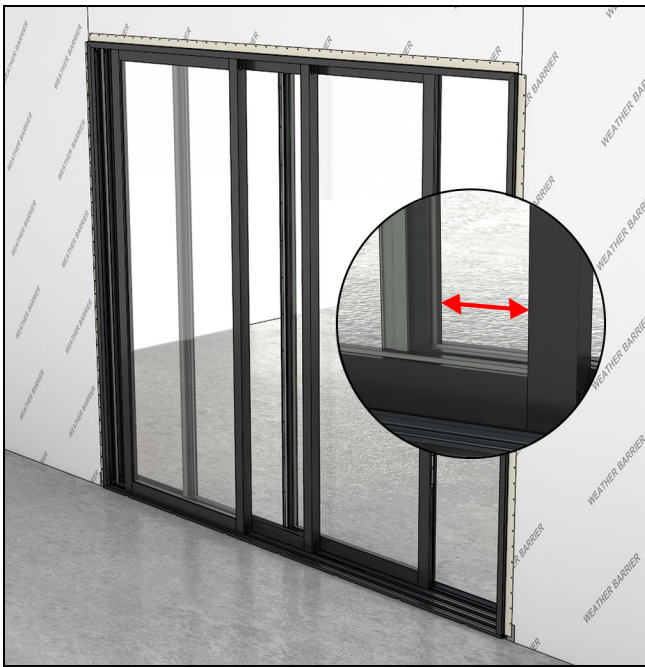

Figure 95
7. With the primary panel open slightly, move the secondary panel until you can see daylight through the glass between the stiles. Check for an even reveal and adjust the rollers on the secondary panel. Repeat as necessary for every secondary panel. See Figure 95.